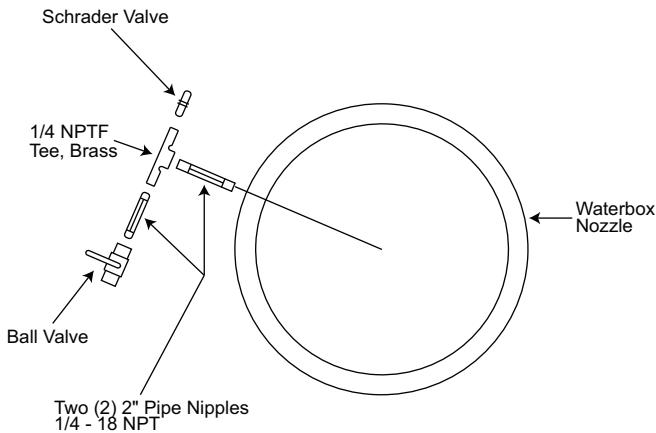

Fig. 48 — Suggested Installation of Pressure Transducers into Water Nozzles Using Flushable Dirt Leg Trap
5. Installation of pressure transducers into water nozzles using flushable dirt leg trap is suggested; see Fig. 48. Pressures can be calibrated between 100 and 250 psig (689.5 and 1723.7 kPa) by attaching a regulated 250 psig (1724 kPa) pressure (usually from a nitrogen cylinder). For calibration, access the Pressure Sensor Calibration Menu from the Maintenance Menu and calibrate the appropriate sensor.